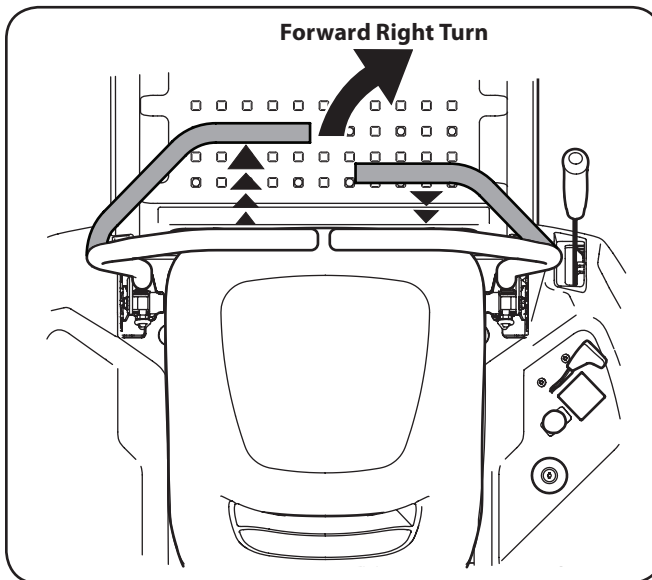

Figure 5-5
2. To turn to the right, move the right drive control lever rearward of the left lever. See Figure 5-5.